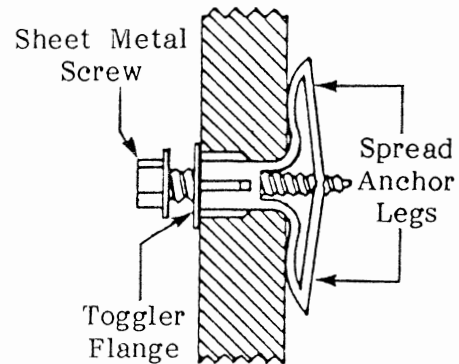

FIGURE 5
**01.23** Thread the screws into the small holes in the center of the togglers. Leave approximately 3/16-inch clearance between the bottom of each screw head and the mounting surface (Figure 5).